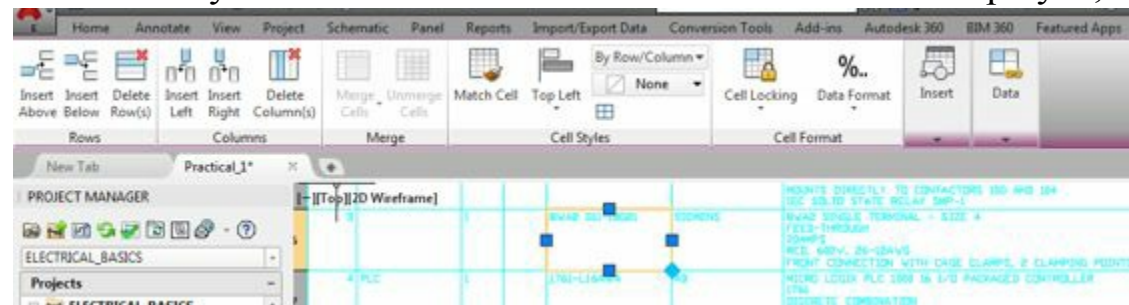

Figure-22. Table Cell tab in Ribbon
- Click in any cell of the table. The **Table Cell** tab will be displayed; refer to Figure-22.